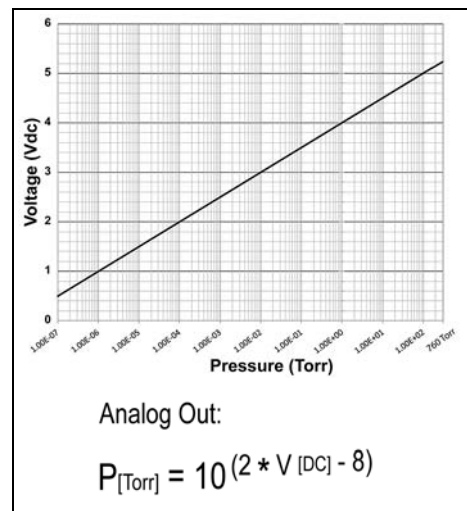

Figure 6: Analog Output of the 523 Transducer
4. See Figure 6 to convert the voltage signal to a pressure.